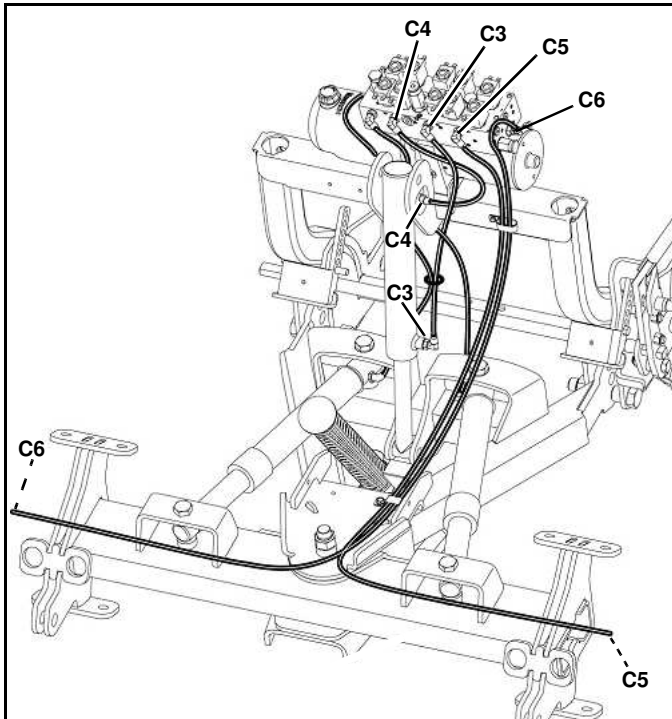

Figure 1-18
22. Connect hoses from C3 and C4 on the valve housing to the lift cylinder as shown. Check hoses for pinching or binding. (See Figure 1-18).